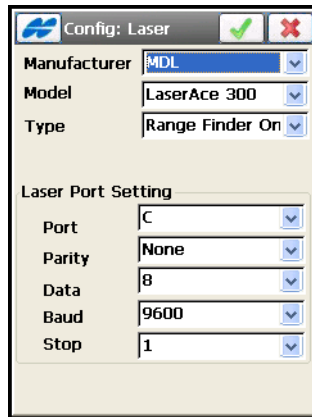

Figure 4-30. Laser Configuration
4. In the **Config: Laser** screen, set the properties for the laser device: a laser manufacturer, the instrument model and type, and laser port settings (see Figure 4-30). Tap the ok  button.